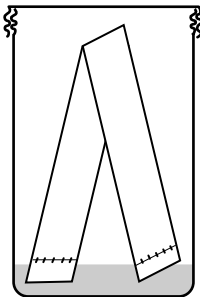

Figure 2. Two TLC plates in developing jar in tent-like support.
8. A developing jar will be shared with another working group. The TLC plates will be placed in the developing jar in pairs to form a tent-like arrangement to support the plates (see Figure 2). The lid must be on the jar during the developing process.